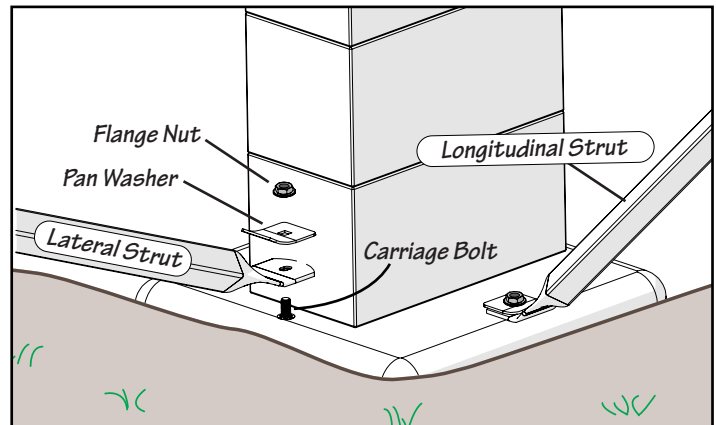

Fig. 4-4
- Note: the two "loose" beam clamps will appear to be out of alignment with the frame as shown in Fig. 4-4 "A".
- Note: As the bolt/nut tighten, the two beam clamps with begin to crimp the I-beam frame as shown in Fig. 4-4 "B".
- Slide a pan washer over the carriage bolt/lateral strut, install a flange nut over the carriage bolt as show right in Fig. 4-4.